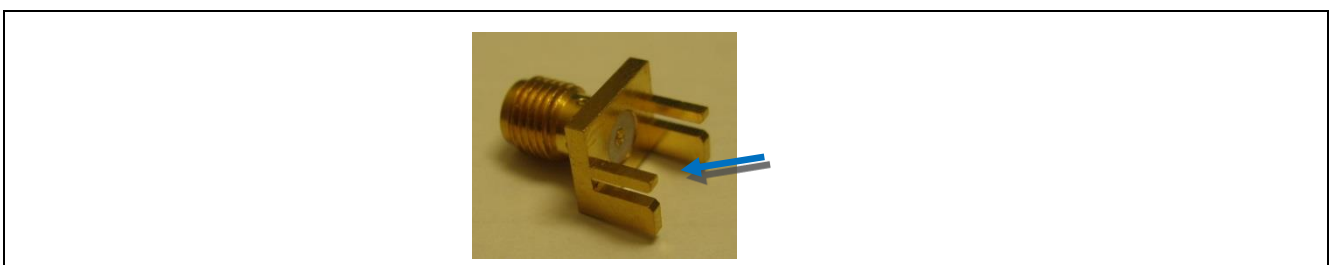

Figure 27 SMA connector for deembedding procedure
Below is a picture of the evaluation board used for the measurements (Figure 27). The board is designed in the way that all connecting 50 Ohm lines have the same length.
- Use an SMA connector whose inner conductor has been removed to tune out one of the SMA to PCB transitions using the port extension on one port (Figure 27). Turn port extensions on.